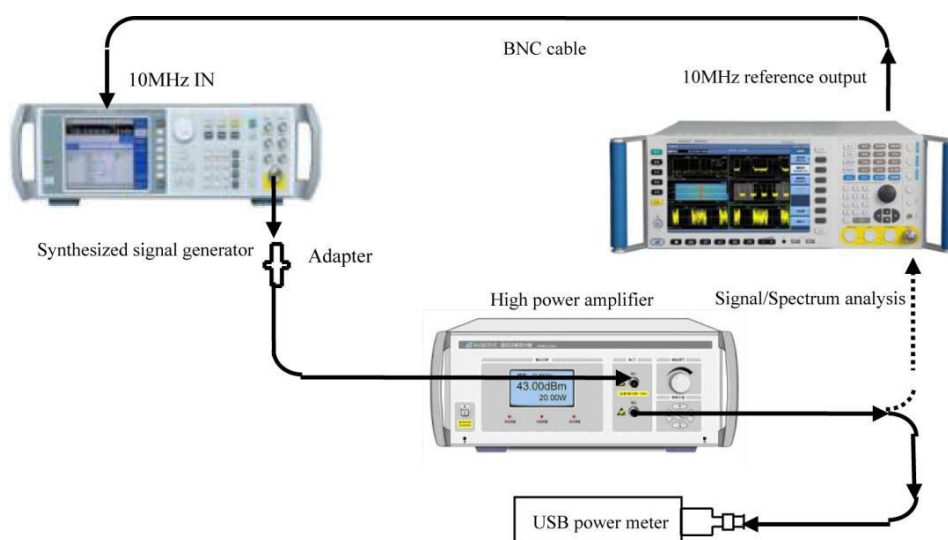

Fig. 8.7 Schematic diagram of maximum safety input level test
- 3) Connect the test equipment according to solid lines of Fig. 8.7 with the output cable of the high power amplifier connected to the USB power meter sensor rather than the signal/spectrum analyzer.